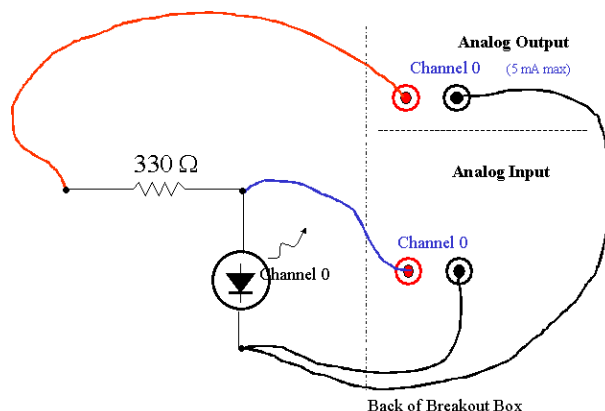

Figure 2.3.29. Setup to send a voltage from the computer.
1. Turn off and disconnect the power supply from your circuit, and wire your circuit as shown in Figure 2.3.29. On your LabVIEW program **Front Panel** (the gray screen), go through the same steps you used to pulled up the **Numeric Digital Indicator**, except this time pull up a **Numeric Digital Control**. Hit the tab key until the standard editing cursor appears, and overwrite the words **Numeric** and **Numeric (2)** with **Voltage Across LED** and **Voltage Out**, respectively. If you mess something up (i.e. change the color of the panel) just hit Ctrl z.